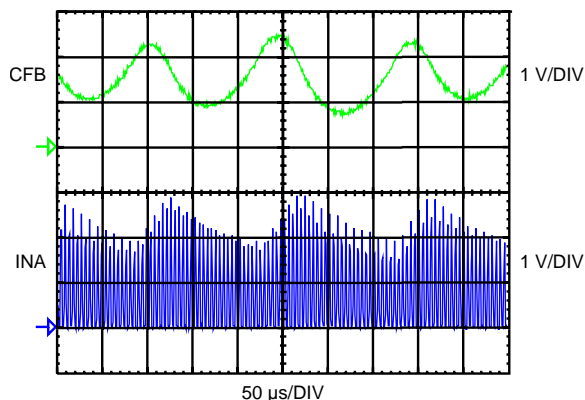
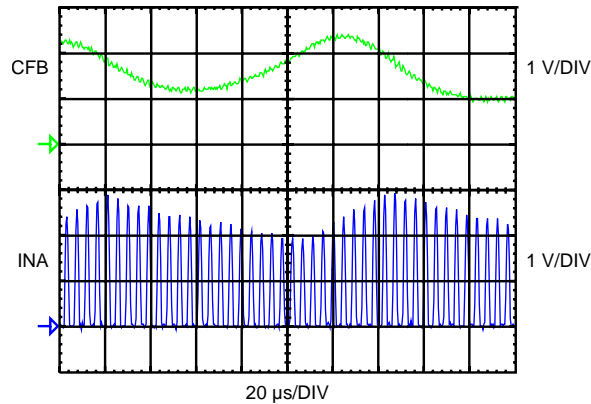

Figure 23. Determining the Value of CF
Figure 24. Determining the Value of CF
5. Set the time scale of the oscilloscope so that many periods of the signal on the INA pin can be seen. See Figure 23.
6. Set the CF capacitor value so that the AC portion of the waveform is about 1V_{PP} maximum. Decreasing the capacitor value will make the AC portion of the waveform larger. This signal scales linearly with the reciprocal of the filter capacitance. For example, if a 100pF filter capacitor is used and the signal observed on the CFB pin has a peak-to-peak value of 200mV, the desired 1V peak-to-peak value is obtained using a $200mV / 1V \times 100pF = 20pF$ filter capacitor. Figure 23 shows the waveforms on CFB and INA and Figure 24 shows the waveforms using a zoomed in horizontal scale. Note that the waveforms on CFB and INA are not a constant amplitude. The waveform on CFB should be adjusted so that the maximum value is 1V_{PP}.
4. Step `RP_MIN` up one step at a time until the amplitude of the signal on the oscilloscope becomes variable as shown in Figure 23 and Figure 24. Increase `RP_MIN` by two, for example if the amplitude becomes variable at 17, set `RP_MIN` to 19.